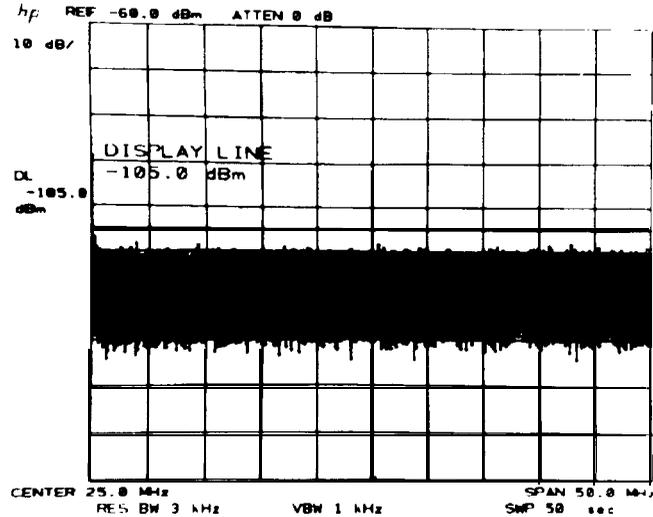

Figure 2-24. Residual Responses Measurement
8. Reduce **[RES BW]** or **[VIDEO BW]**, if necessary, for a margin of at least 4 dB between the noise trace and the display line (refer to Figure 2-24). Do not reduce either bandwidth to less than 300 Hz.